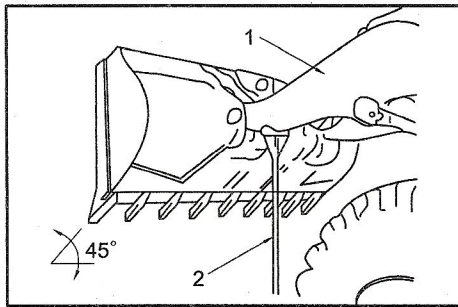

Fig. 05-35
Raise the boom(1), and then put a support bracket (2) (to be prepared by end-users themselves) under the boom to support it. Afterwards remove off the cover plate (3) in the front frame (See Fig. 05-35, 05-36).